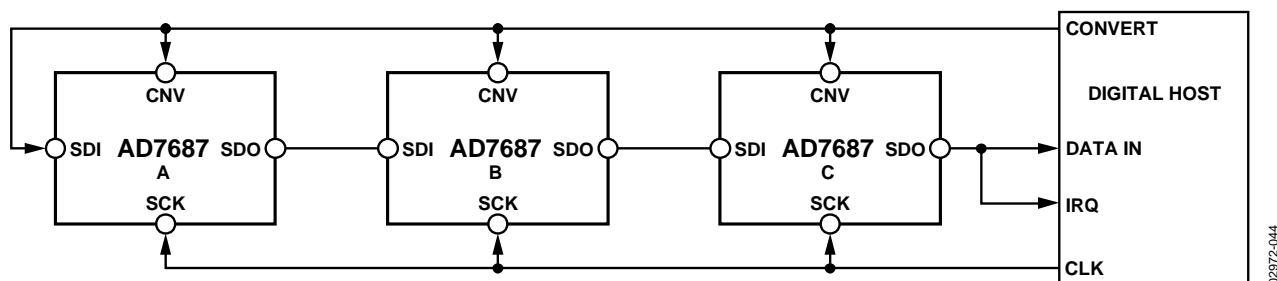
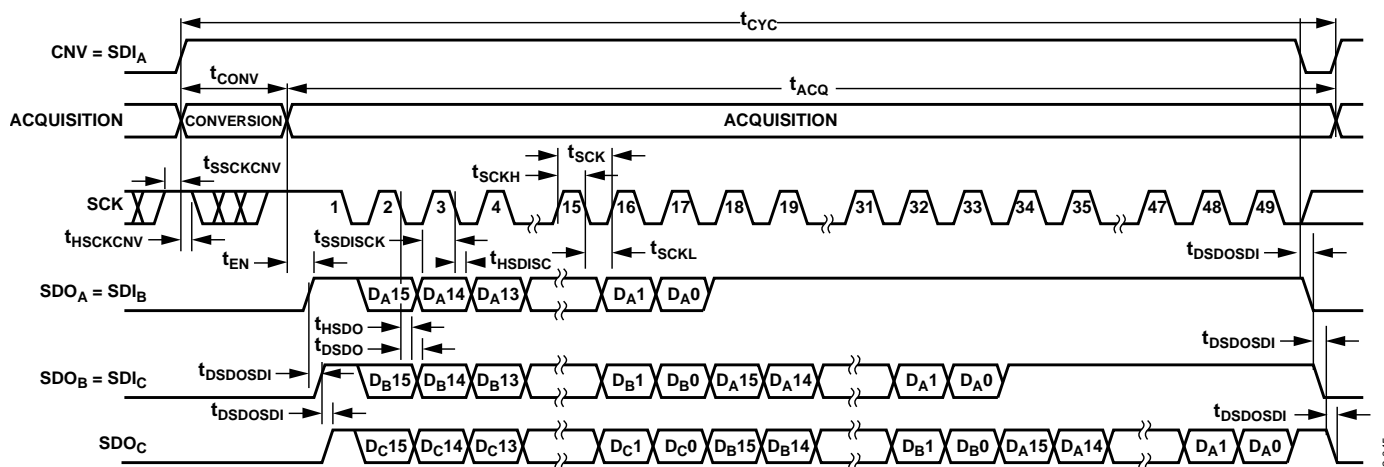

Figure 45. Chain Mode with BUSY Indicator Connection Diagram
Figure 46. Chain Mode with BUSY Indicator Serial Interface Timing
- In the chain mode, if SCK is high during the \overline{CNV} rising edge (Figure 46).
A connection diagram example using three AD7687s is shown in Figure 45 and the corresponding timing is given in Figure 46.
Figure 45) SDO is driven high. This transition on SDO can be used as a BUSY indicator to trigger the data readback controlled by the digital host. The AD7687 then enters the acquisition phase and powers down. The data bits stored in the internal shift register are then clocked out, MSB first, by subsequent SCK falling edges. For each ADC, SDI feeds the input of the internal shift register and is clocked by the SCK falling edge. Each ADC in the chain outputs its data MSB first, and $16 \times N + 1$ clocks are required to readback the N ADCs. Although the rising edge can be used to capture the data, a digital host using the SCK falling edge allows a faster reading rate and consequently more AD7687s in the chain, provided the digital host has an acceptable hold time. For instance, with a 3 ns digital host setup time and 3 V interface, up to eight AD7687s running at a conversion rate of 220 kSPS can be daisy-chained to a single 3-wire port.